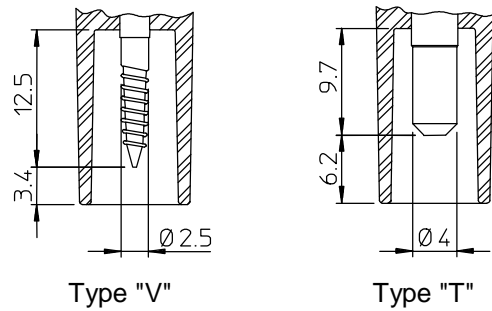

Fig. 8
- V: screw fixing system (Fig. 8);
T: fixing system with terminal Ø 4 (Fig. 8);
The connection of high voltage cables can be of two types, according to the terminals used inside the isolators: connections can be carried out by means of a screw or a cylindrical terminal with 4 mm diameter, as shown in Fig. 8. All connectors, including the ones complete with cable, can be supplied on request.